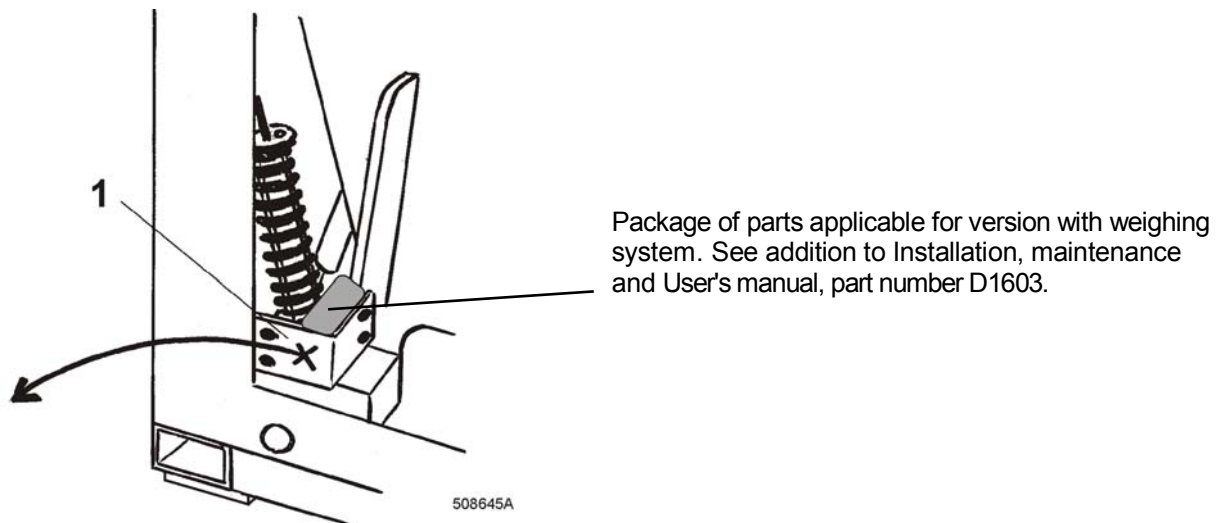

Figure 8.5. – Transport braces
Before you put the machine into service, remove the four striking transport braces securing the vibrating machine components during the transport. The four striking braces are placed on the bottom of the machine, Figure 8.5., pos.1. They are available after demounting of service panels, Figure 7.3., 7.4., pos.26, 32. After removing them put service panels back on the machine.
6. A check of the transport braces removal, Figure 8.5.